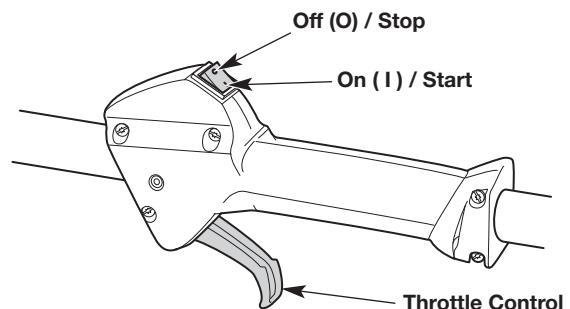
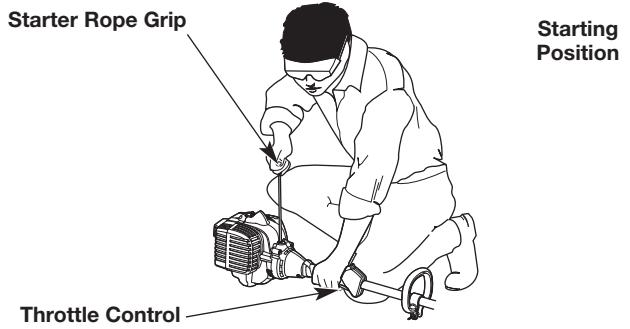

Fig. 6
Fig. 8
WARNING: Avoid accidentally starting the unit. To avoid serious injury, the operator and the unit must be in a stable position when pulling the starter rope (Fig. 8).
- NOTE:** There is no need to turn the unit on. The On/Off switch is in the ON (I) position at all times (Fig. 6).
5. Crouch in the starting position (Fig. 8).
6. Squeeze the throttle control (Fig. 6) and pull the starter rope with a controlled and steady motion **5 times** (Fig. 8).
2. Press and hold the On/Off switch in the OFF (O) position until the engine comes to a complete stop (Fig. 6).
NOTE: There is no need to turn the unit on. The On/Off switch is in the ON (I) position at all times (Fig. 6).
7. Squeeze and hold the throttle control (Fig. 6). Run the electric start accessory for 2 seconds.